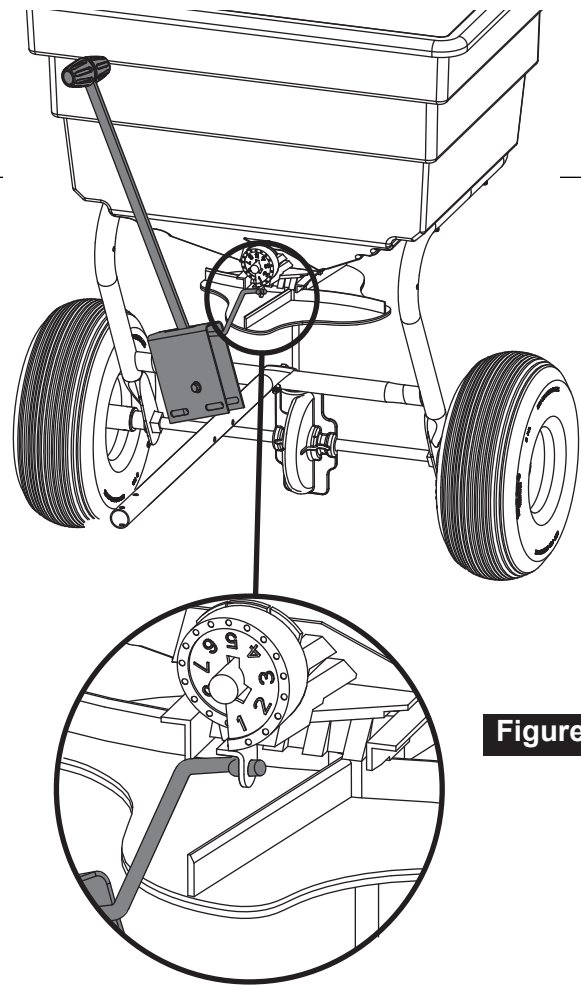

Figure 11
16. Turn Control Bracket assembly sideways as shown, Figure 11. Install end of linkage into rate gate bracket.